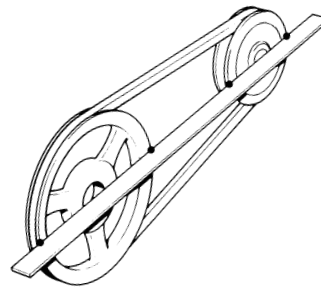

Fig. 44 V-belt pulley adjustment
- Check that after tension adjustment and tightening the motor mounting nuts, both pulleys are in a straight line to avoid excessive wear of the V-belt. Hold a straight edge against compressor and motor V-belt pulleys as shown in Fig. 44: edge must be parallel to the v-belt.